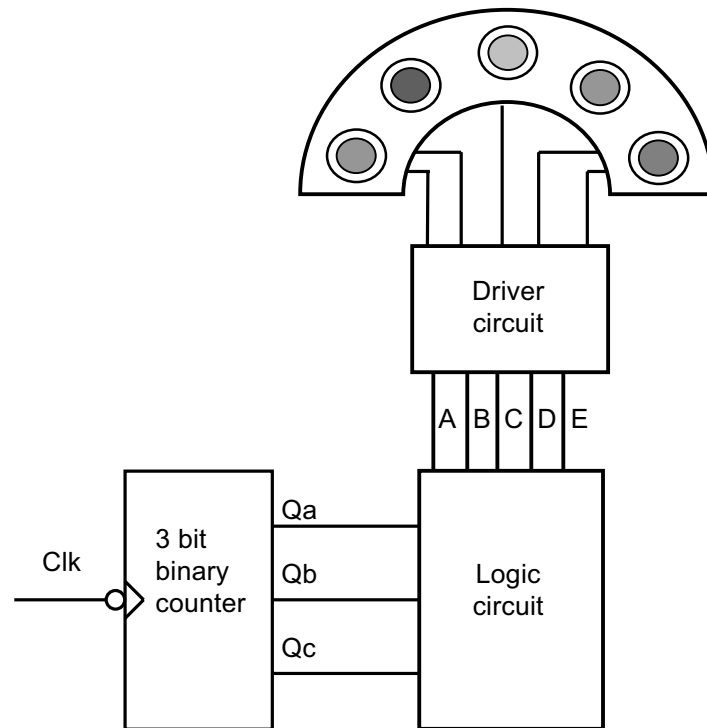

Fig. 2(a)
- 2 The display board for a theme park ride consists of 5 coloured 12 volt lamps, A, B, C, D and E, which are arranged in a row as shown in **Fig. 2(a)**. The lamps which flash with an eye-catching sequence are controlled by the outputs from a logic circuit. As the outputs of the counter Qa, Qb and Qc are incremented from 000 the lamps are to be switched on in the following sequence, A, AB, ABC, BCD, CDE, DE, E, all off.